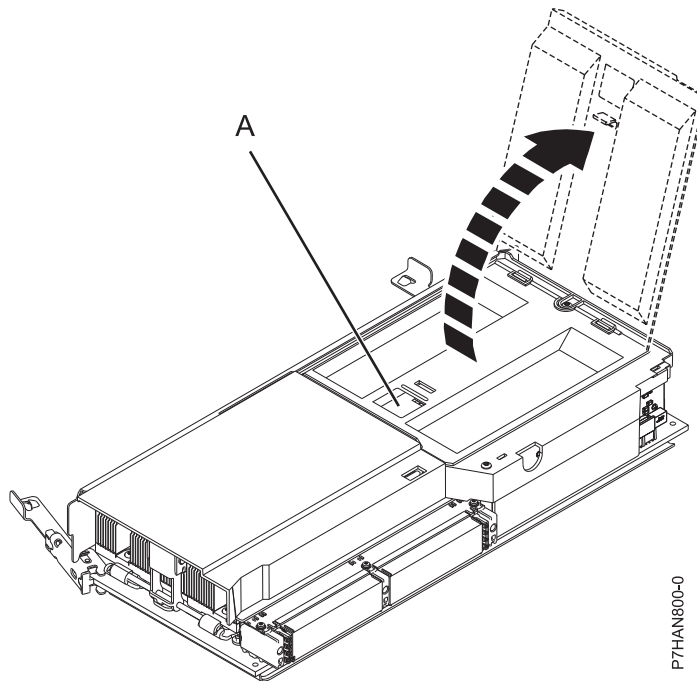

Figure 42. Removing a memory module
10. Unlock the memory module cover by pushing the locking tab (A) down, as shown in Figure 42 on page 80. Lift the cover up to access the memory modules.